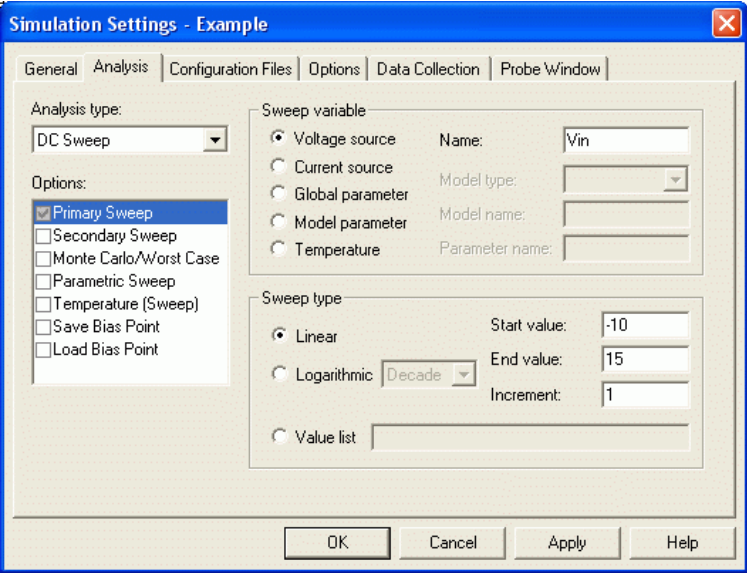

Figure 2-8 DC Sweep analysis settings
- 5. From the Analysis type list, select DC Sweep and enter the values shown in Figure 2-8.